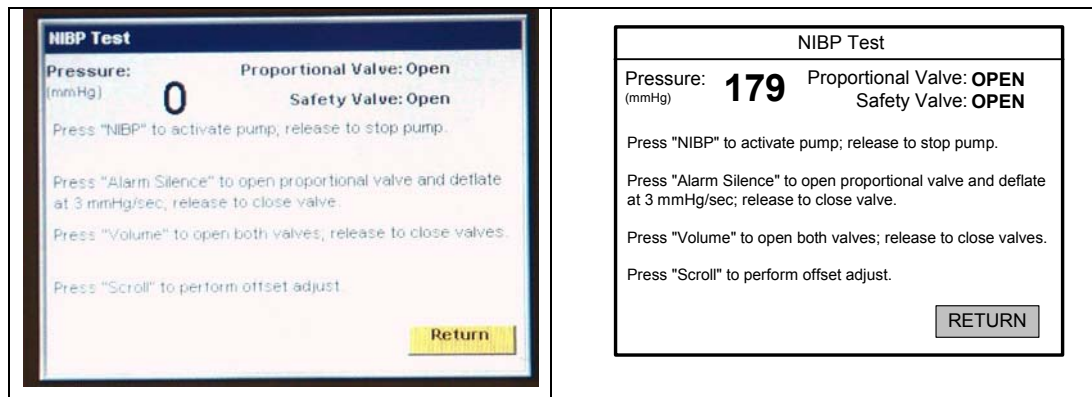

Figure 4-5. Displaying the NIBP Test Information
4.11.4 Accessing the NIBP Test (Figure 4-5)